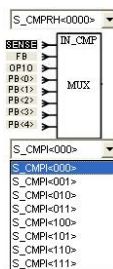

Figure 57
- (1) Click the specified network name with mouse left key, INCMP can select to that network
- (2) Click the specified network switch with mouse left key, INCMP can select to that network
- (3) Figure 57 will show up by clicking mouse left key, and then users can select the switch network